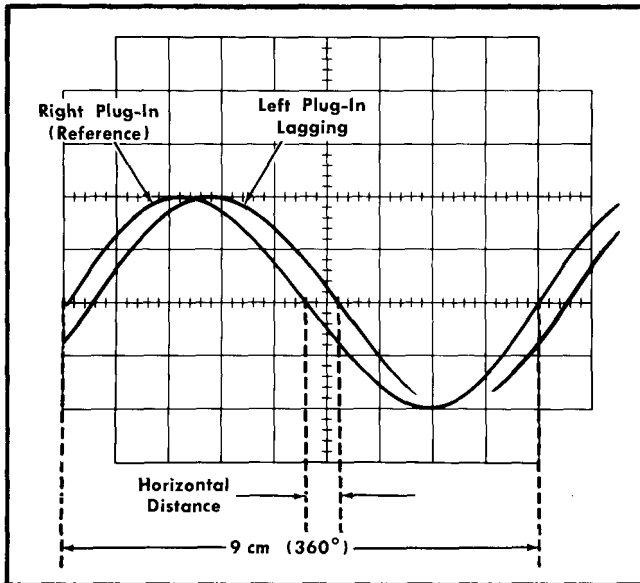
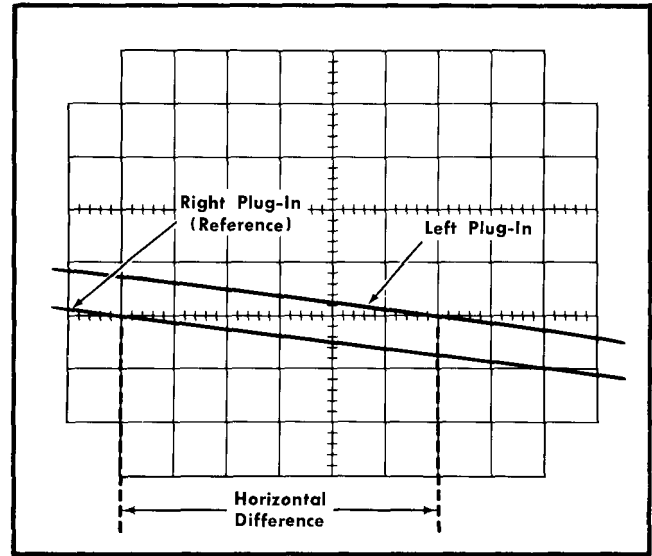

Fig. 2-24. Measuring phase difference.
Fig. 2-25. Using a sweep magnification to measure the phase difference.
10. Turn the B TIME/CM VARIABLE control until one cycle of the reference signal (the right plug-in) occupies exactly 9 cm horizontally (see Fig. 2-24). Each cm then represents  $40^\circ$  of the cycle ( $360^\circ$  divided by 9 cm =  $40^\circ$  per cm). This is the phase factor.
Example: Assume a horizontal difference is 0.6 cm with a phase factor of  $40^\circ$  as shown in Fig. 2-24.
Example: If the sweep rate were increased 10 times with the magnifier, the adjusted phase factor would be  $40^\circ$  divided by 10 =  $4^\circ$  per cm. Fig. 2-25 shows the same signals used in Fig. 2-24 but with the Lower Beam DISPLAY